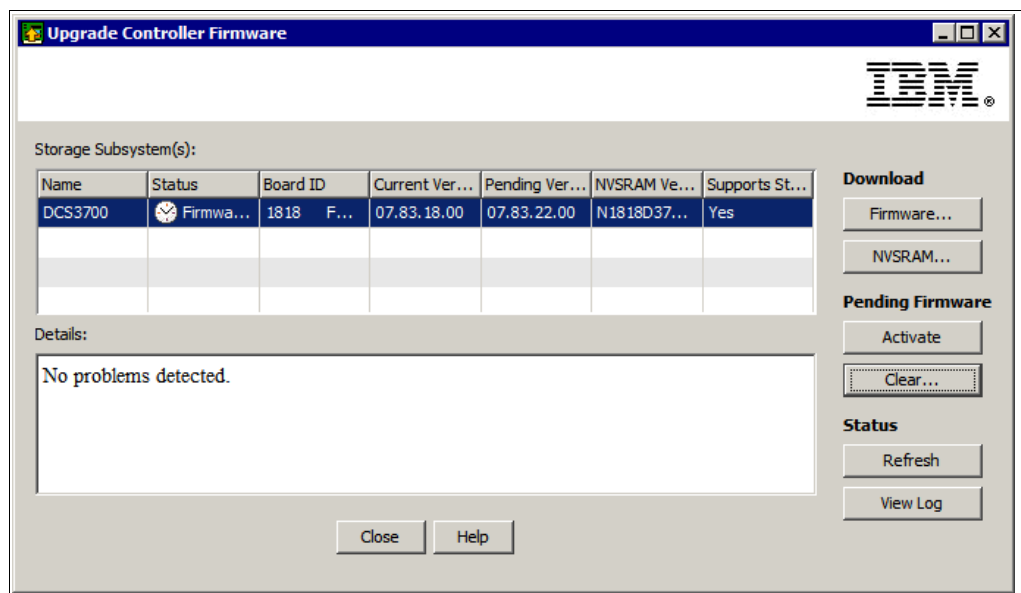

Figure 14-23 Pending firmware upgrade
- a. Click **Clear** in the Upgrade Controller Firmware window, as shown in Figure 14-23.